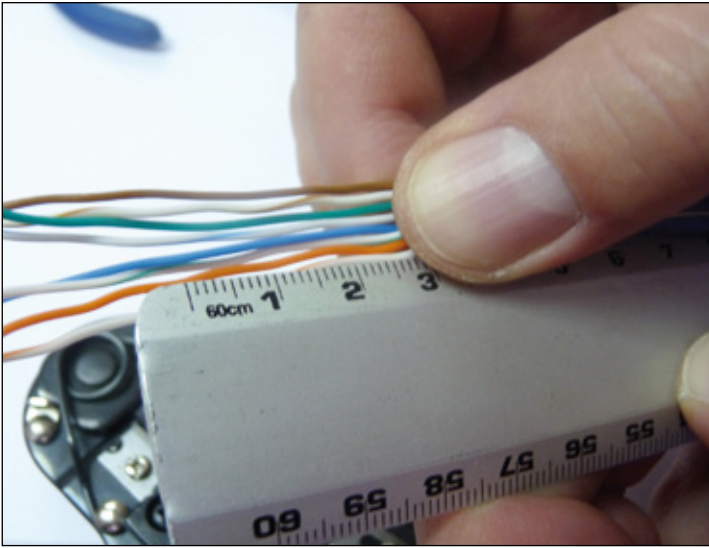

Figure 9
- 8 Proceed to measure an approximate length of 30mm from the jacket end and make a straight cut with the cable Crimp tool cutter as shown in Figures 9 and 10.